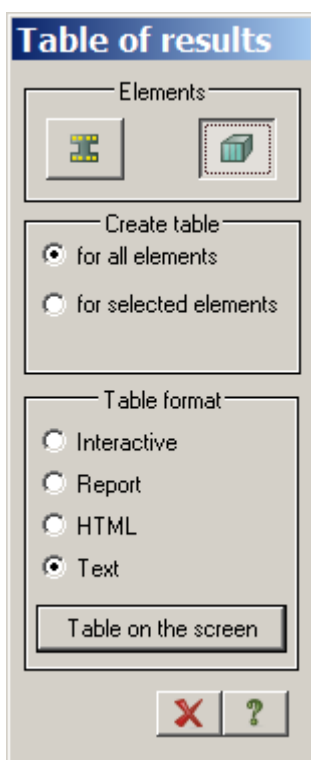

Figure 2.21 **Tables of analysis results** dialog box
- ⇒ In the **Tables of analysis results** dialog box (see Fig.2.21), click the **Plates** option in the **Elements** area. The following data is mentioned by default: option **For all elements** in the **Create table** area and **Text** option in the **Table format** area.